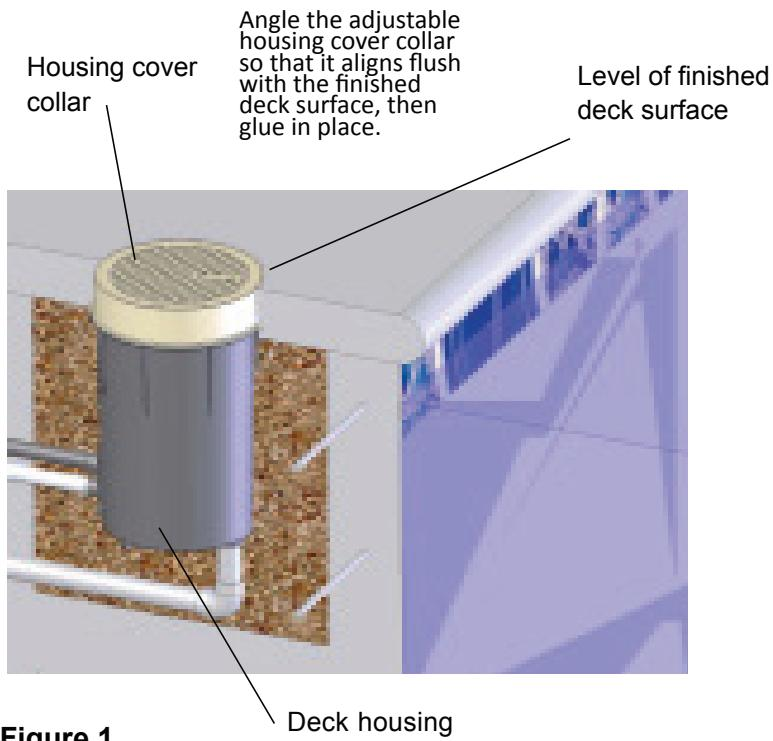

Figure 1
- Anchor the deck housing so that the top of the housing cover collar is at the level of the finished deck (Figure 1). The adjustable collar should be angled so that it will align flush with the finished deck surface. Once you have made the final adjustments to the collar's angle, glue the collar to the deck housing.